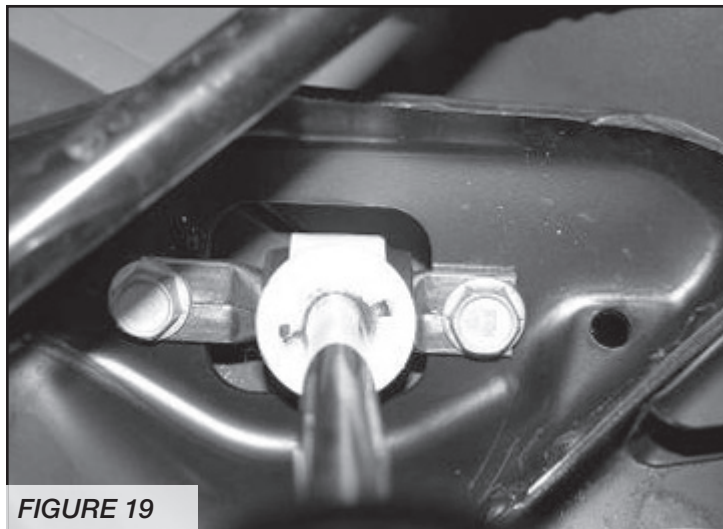

FIGURE 19
22. Install the Fabtech shocks FTS7265 using the supplied FT83255 bar pins or FTS810591 Dirt Logic. Use the factory upper and lower hardware to mount the shocks. Torque the upper hardware to 29 ft-lbs and the lower to 75 ft-lbs. SEE FIGURE 19